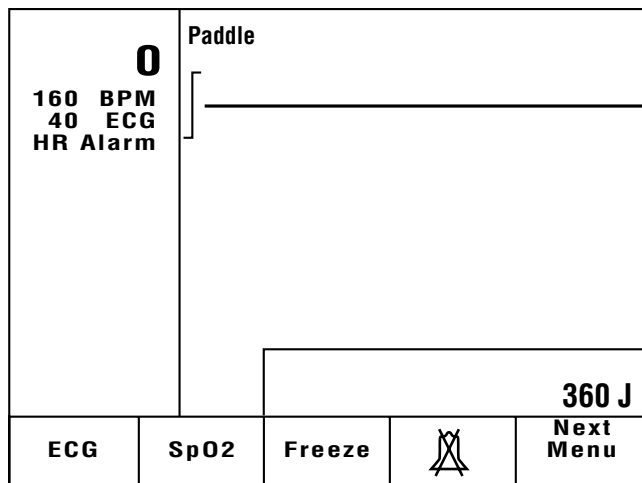

Figure 3-8. Display of selected energy
- * Set the energy selector to 360 joules (50 joules, if internal electrodes are connected). The display first shows the selected energy (Figure 3-8).